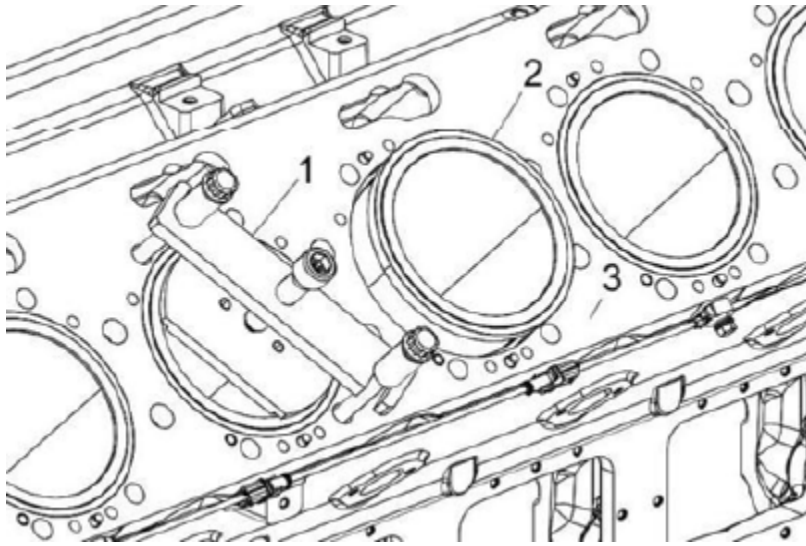

Figure 119.
5. Install the cylinder liner installer (Figure 119, Item 1) on the engine block and nest the liner (Figure 119, Item 2) using the special tool.